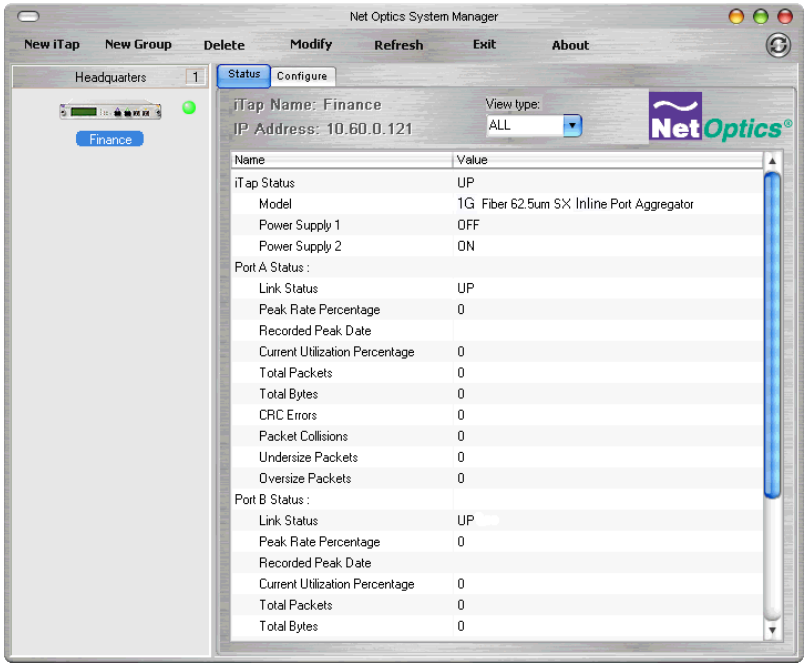

Figure 28: Net Optics System Manager with iTap
6. Check your settings and click **Create**. The System Manger now shows the iTap in the system similar to the screen shown in Figure 28.